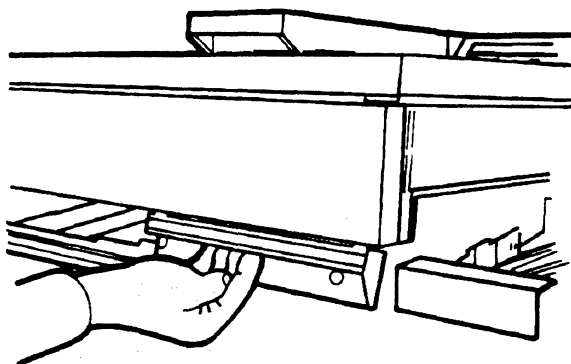

Figure 2-8 **Opening the printer**
1. Open the printer cover (see Figure 2-8). The foam shipping material is visible on the right side of the printer.